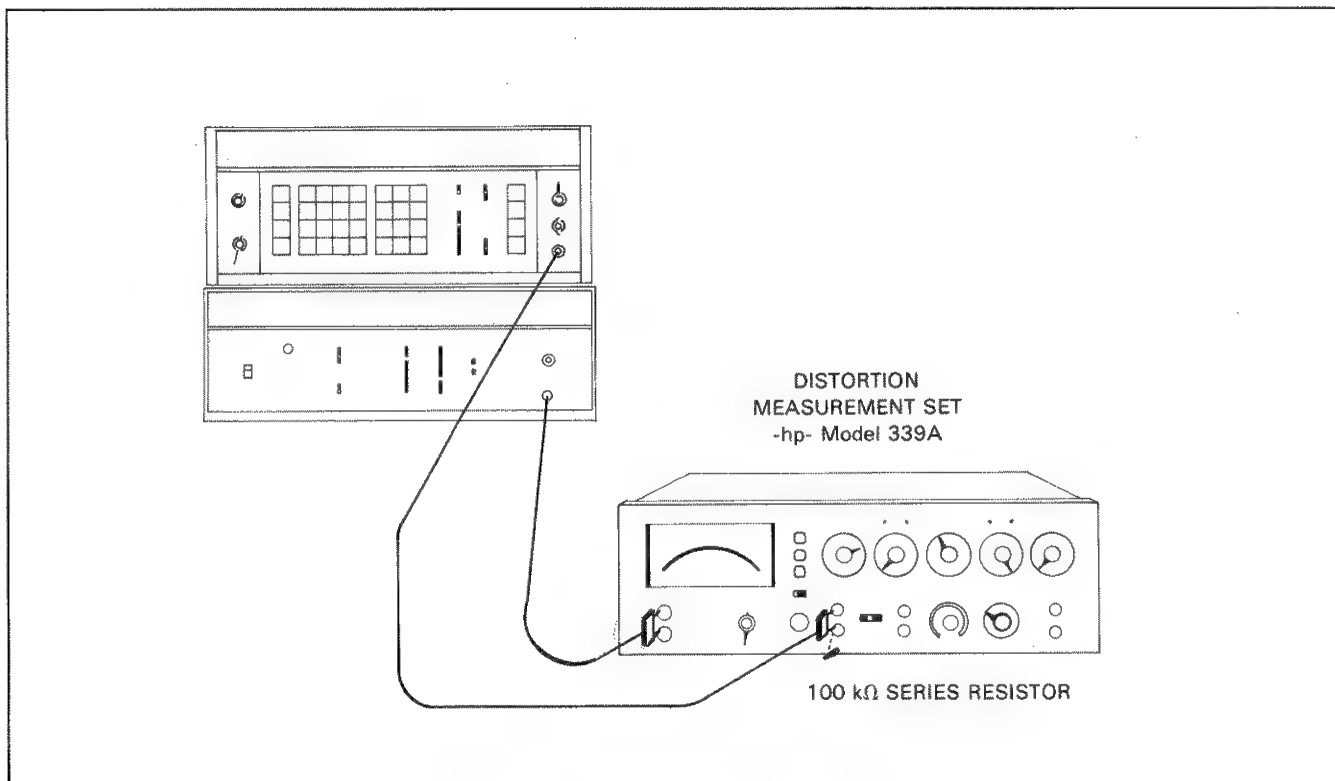

Figure 4-13. Input Impedance Test.
- b. Connect the equipment as shown in Figure 4-13.